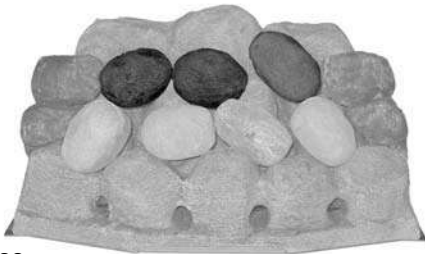

Fig. 23
5. Choose three loose pebbles and place them in line on the next row up, again making sure all the gaps are even. It is important that the pebbles 'bridge' the peaks of the fuel bed and are not placed in between. This helps the flow of burnt gases and should give an even glowing fuel bed (Fig. 23).